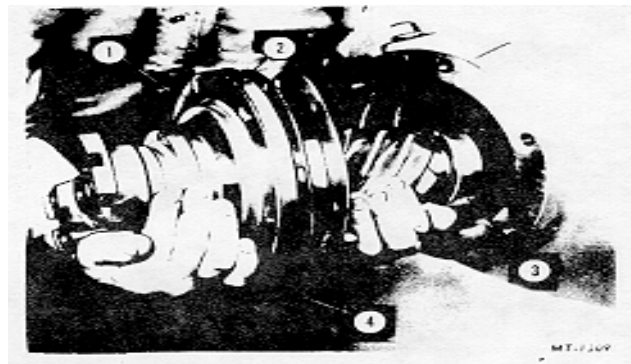

Fig. 16. Removing Pinion and Cage Assembly
2. Remove pinion and cage assembly from the differential carrier, Fig. 16.